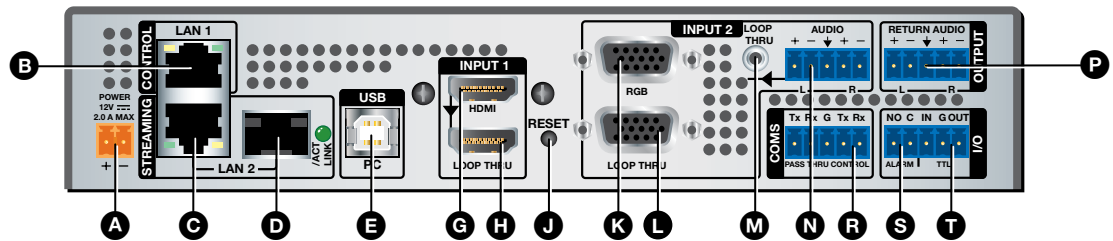
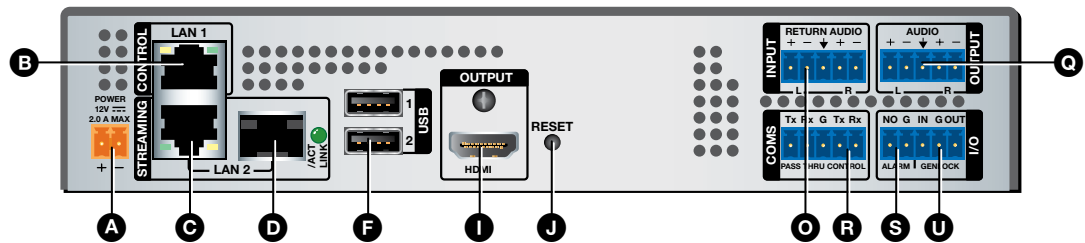

Figure 6. VNE 250 Rear Panel
Figure 7. VND 250 Rear Panel
The provided 12 VDC, 24 watt power supply connects to a 2-pole, 3.5 mm captive screw receptacle on the rear panel of the encoder (see **figure 6, A** on page 13), or decoder (see **figure 7, A** on page 13).
See figure 6 or figure 7, B, C, and D.
By default, the RJ-45 port is the active streaming network connection and the SFP cage (see **figure 6, D** on page 13 for the encoder or **figure 7, D** on page 13 for the decoder) is unpopulated.
To use the RJ-45 port (see **figure 6, C** for the encoder or **figure 7, C** for the decoder), connect this port to the network with a standard LAN cable.
4. Connect a single mode or multi-mode cable to the encoder (see **figure 6, D**), or decoder (see **figure 7, D**).
2. Connect the device to the network using the streaming LAN 2 port on the rear panel of the encoder (see **figure 6, C** or **D**), or decoder (see **figure 7, C** or **D**).
1. Connect a mouse and keyboard to the VND 250 rear panel USB ports (see figure 7, **F** on page 13).
2. Connect a PC to the VNE 250 rear panel USB port (see figure 6, **E** on page 13). This connection passes the mouse and keyboard control signals to the source PC.
The Coms port on the rear panel of the encoder (see figure 6, R on page 13), or decoder (see figure 7, R on page 13) is used for RS-232 pass-through communications, allowing a control device connected to one VNM 250 unit to control a remote device connected to a second VNM 250 unit.